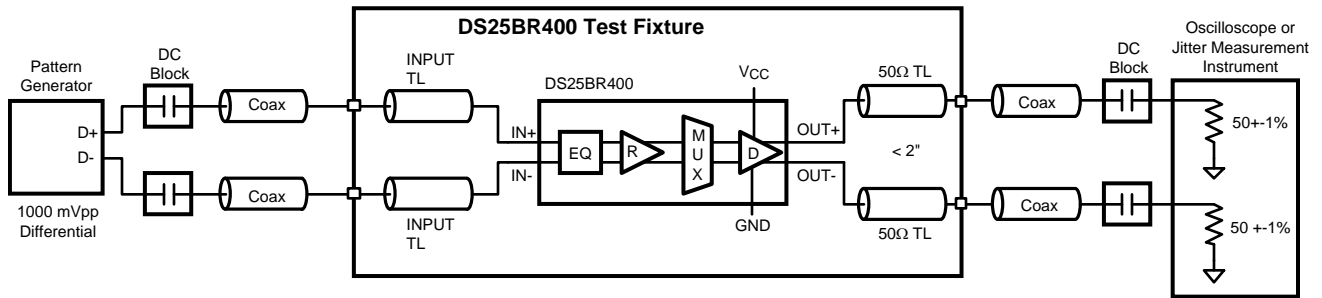

Figure 7. AC Test Circuit
(4) All CML Inputs and Outputs must be AC coupled for optimal jitter performance.
(5) t_{SKO} is the magnitude difference in propagation delays between all data paths on one device. This is channel-to-channel skew. t_{SKPP} is the worst case difference in propagation delay across multiple devices on all channels and operating under identical conditions. For example, for two devices operating under the same conditions, t_{SKPP} is the magnitude difference between the shortest propagation delay measurement on one device to the longest propagation delay measurement on another device.
(6) Device output random jitter is a measurement of random jitter contributed by the device. It is derived by the equation $\text{SQRT}[(R_{JOUT})^2 - (R_{JIN})^2]$, where R_{JOUT} is the total random jitter measured at the output of the device in ps(rms), R_{JIN} is the random jitter of the pattern generator driving the device. Below 400 Mbps, system jitter and device jitter could not be separated. The 250 Mbps specification includes system random jitter. Please see Figure 7 for the AC test circuit.
(7) Device output deterministic jitter is a measurement of the deterministic jitter contribution from the device. It is derived by the equation $(DJ_{OUT} - DJ_{IN})$, where DJ_{OUT} is the total peak-to-peak deterministic jitter measured at the output of the device in ps(p-p). DJ_{IN} is the peak-to-peak deterministic jitter at the input of the test board. Please see Figure 7 for the AC test circuit.
(8) This parameter is guaranteed by design and/or characterization and is not tested in production.